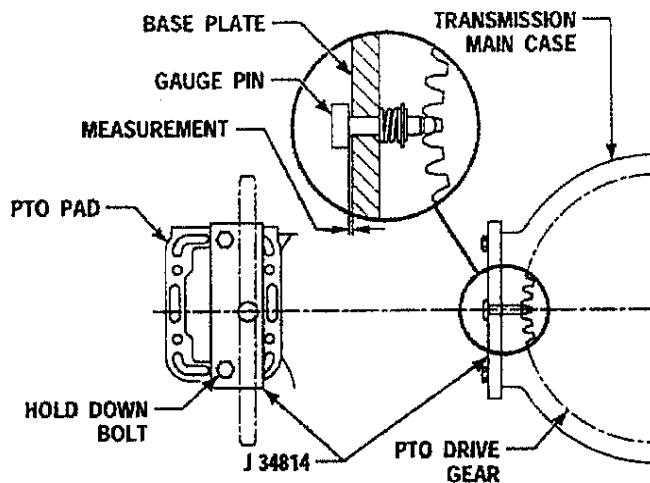

Figure 3-3. Measuring Turbine-Driven PTO Backlash
- ✓ PTO not installed: backlash can be measured with special tool J 34814 (Figure 3-3). Reference SIL 50-TR-83 (latest revision)